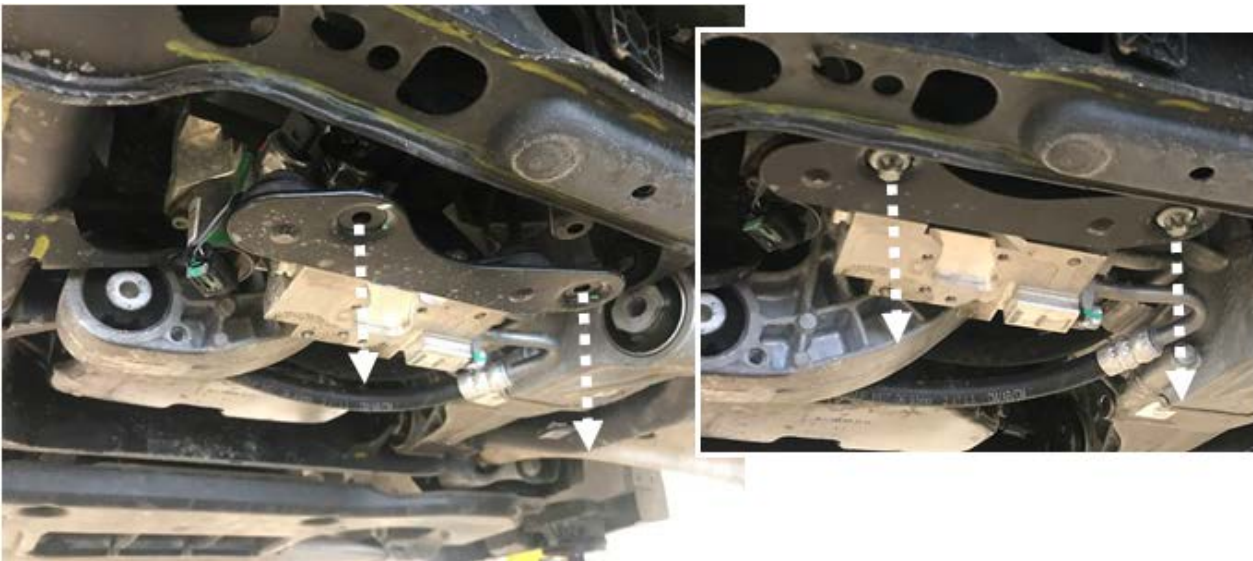

Figure 7
4. For vehicles **with code 468 (Active Curve System)**, unscrew the hydraulics block (**Figure 7**) and slightly press downwards with lines connected.